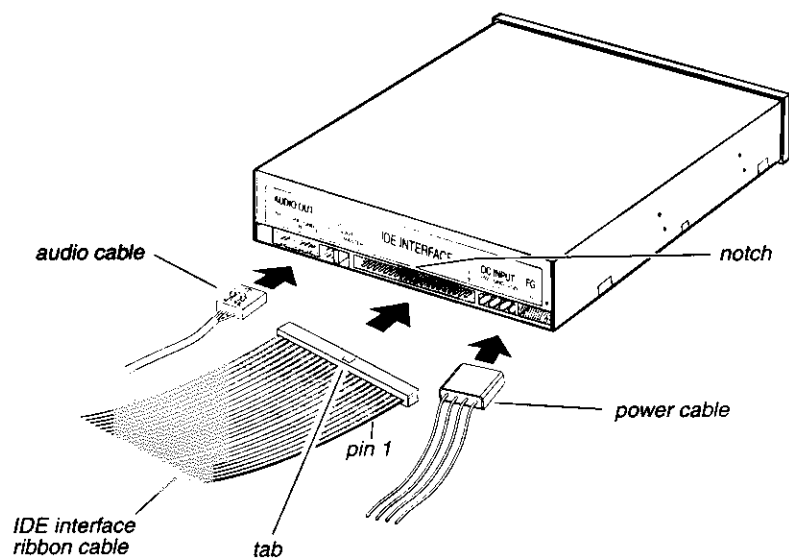

Figure 7. Cable Connections
8. Connect the included analog audio cable to the analog audio connector on the rear panel (see Figure 7).
Be certain to connect pin 1 on the CD-RW Drive to pin 1 on the IDE interface. (Pin 1 on the interface cable is usually designated by a color stripe along one edge of the cable. Also, the interface ribbon cable connector may feature a tab on one side. Insert the cable so that the tab aligns with the notch in the interface connector. Do not use excessive force while trying to insert the cable into position. For more information, refer to Figure 7 on page 10.)